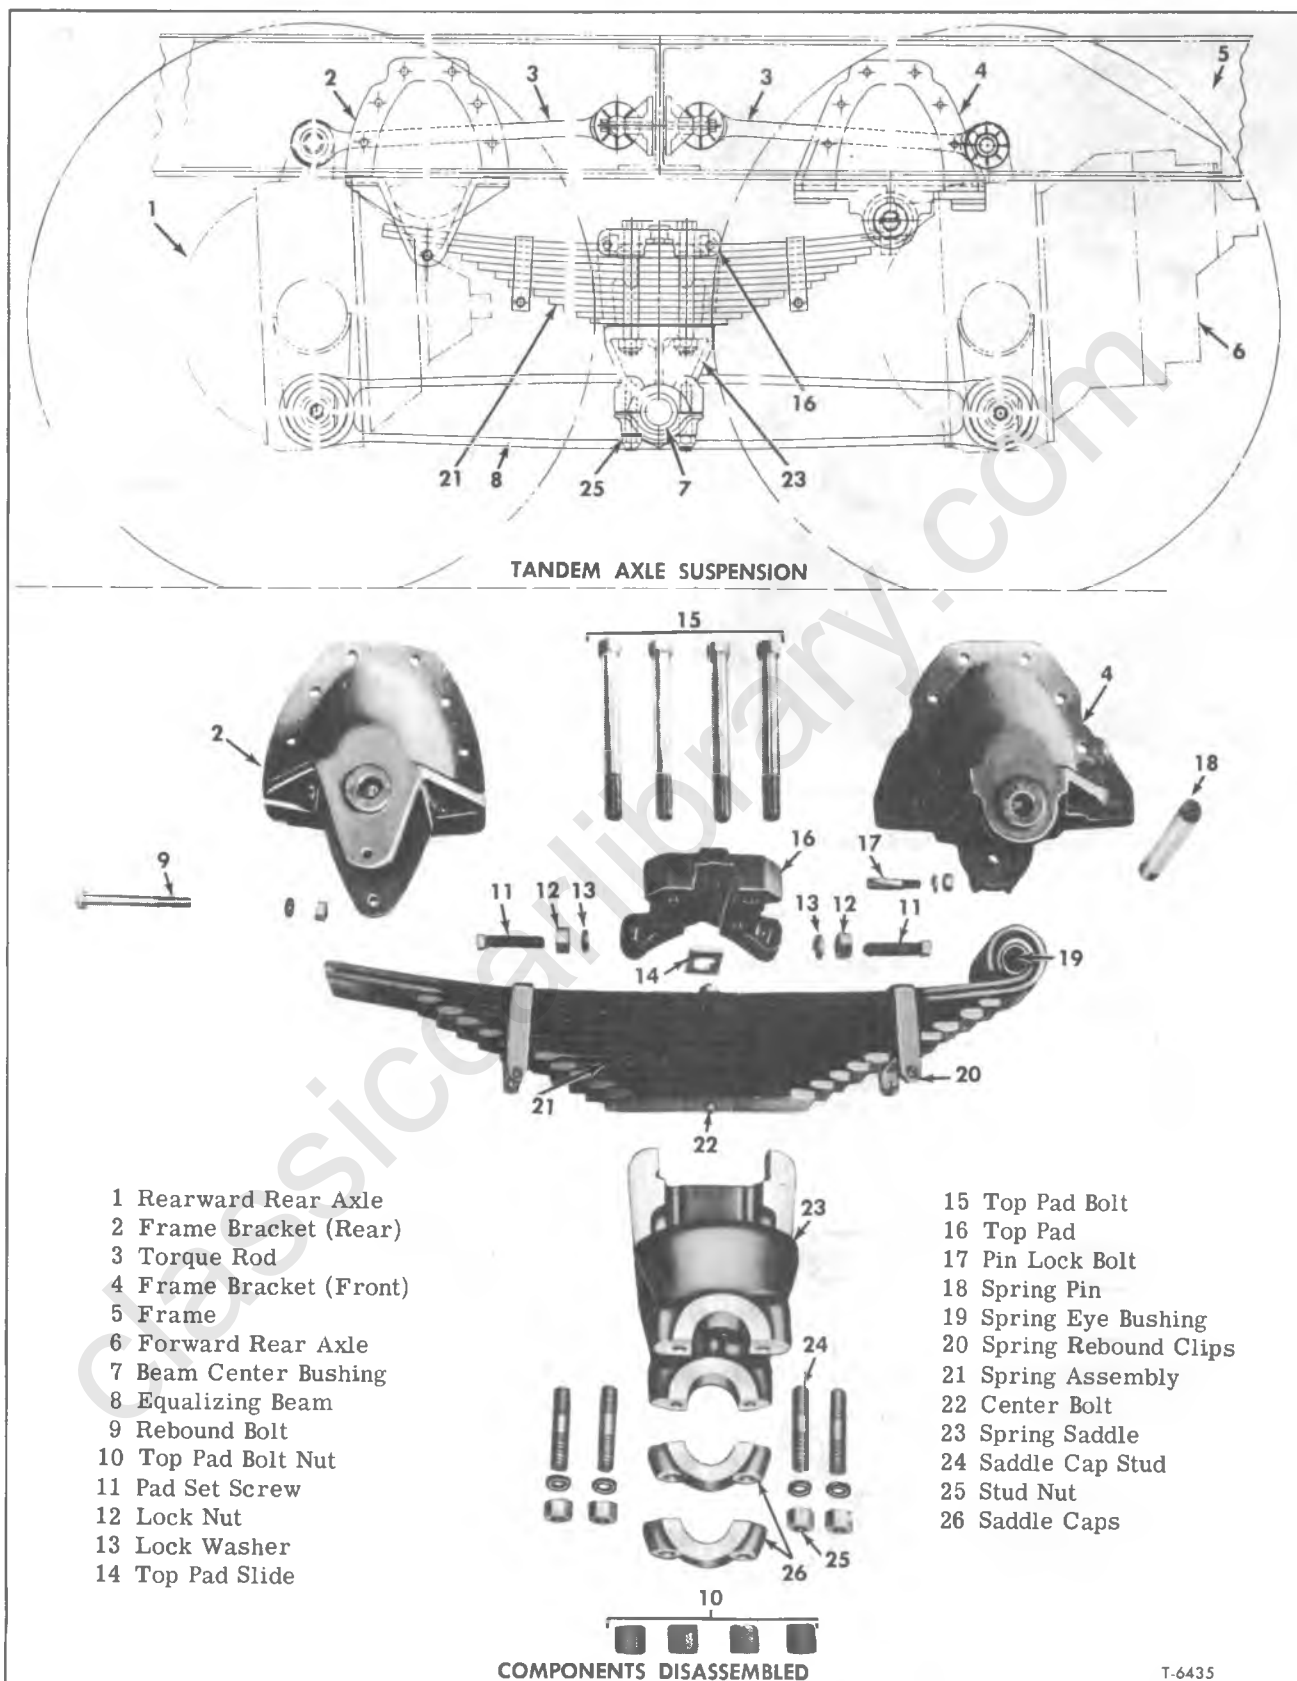
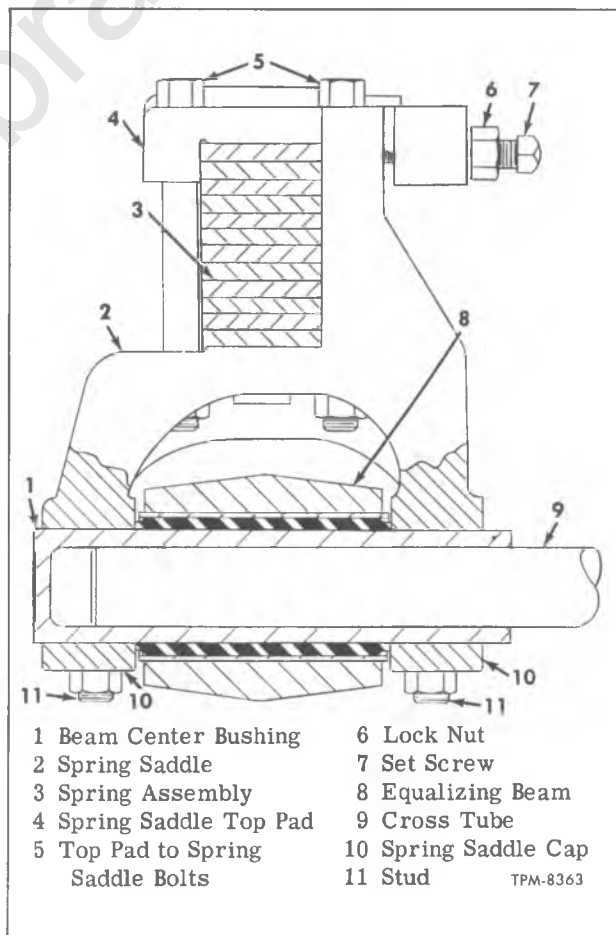

Figure 6—Tandem Rear Axle Suspension (Hendrickson R.T.) (Typical)
Figure 10—Section Through Spring Saddle and Beam
The RT type embodies a spring top saddle pad that uses bolts to secure spring to axle. Figure 6 shows typical arrangement of Hendrickson suspension units described.
REMOVAL (Refer to Fig. 6)
4. On vehicles equipped with the "RT" type suspension shown in figure 6, remove four bolts which attach spring saddle top pad to spring saddle; hold nuts at bottom while turning bolt at top. Loosen lock nuts on top pad setscrew, then loosen setscrew and lift top pad and the slide from top of spring. Lift spring assembly up and rearward to remove from spring saddle.
INSTALLATION (Fig. 6)
2. At axle brackets, remove nuts (5), washers (7), and bolt (1). Pry adapters (2) from bushings and brackets.
3. With blocking under beam cross tube (fig. 10) to support weight of beams, remove saddle caps (fig. 6) attached with four nuts and flat washers.
1. Position beams, with cross tube in place at spring saddles (fig. 6) and axle brackets.